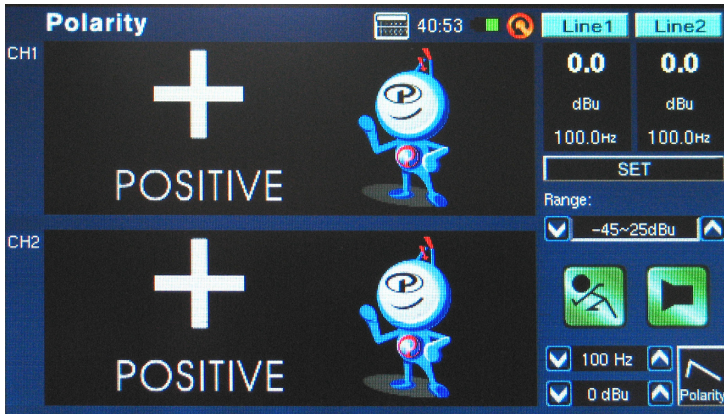

figure 57
7. A large “+” appearing on screen means the signal is in phase and the wiring is correct (figure 57).